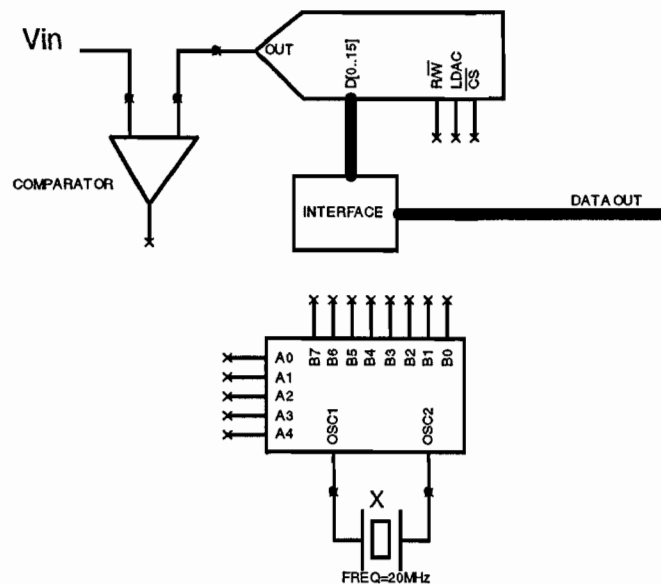

Fig. 2
Supplementary pages: Two extra copies of Fig. 2 (Question 2).
2. The partial block diagram of a *Successive Approximation Analogue to Digital Converter (ADC)* is shown in Fig 2. The Digital to Analogue Converter (DAC) is a 16 bit parallel input device with the timing diagram given in Appendix 2 (DAC7741). The pin out of the microcontroller is given in Appendix 3 (PIC16F84). A comparator is available, whose characteristics can be viewed as ideal.
a) Describe by annotating the answer sheet copy of Fig. 2, how would you use the microcontroller in order to achieve Analogue to Digital conversion. [10%]